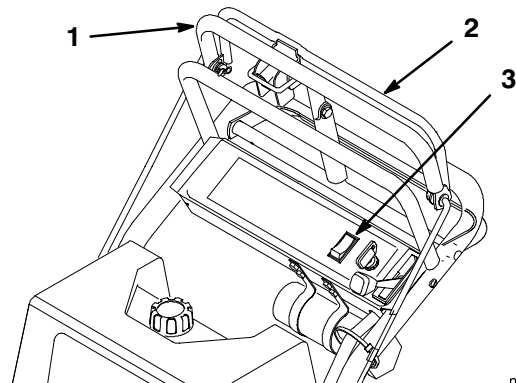

Figure 11
1. Pull on the upper control bar to stop the machine (Fig. 11).
2. To engage the blades, squeeze the blade control bail against the upper control bar (Fig. 11).
4. To disengage the blades, release the blade control bail, or push the blade control switch to the “OFF” position (Fig. 11).